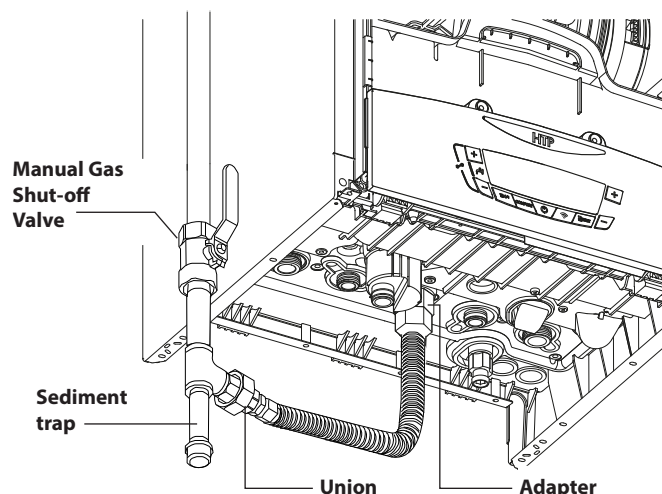

Figure 69 - Gas Line with Shut-Off and Sediment Trap Detail
- A manual gas shut-off valve should be installed in the gas supply line close to the boiler. See Figure 69.